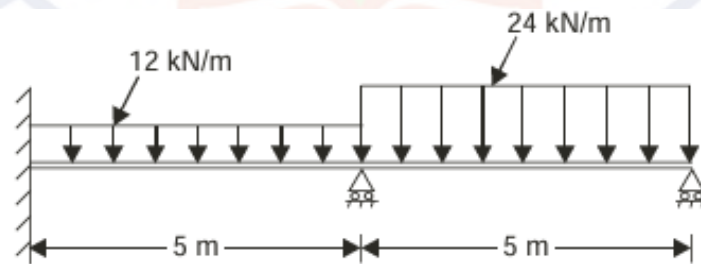

Figure 4:
b) Analyse the beam shown in Figure. 4 by finite element method and determine the end reactions. Also determine the deflections at mid spans given